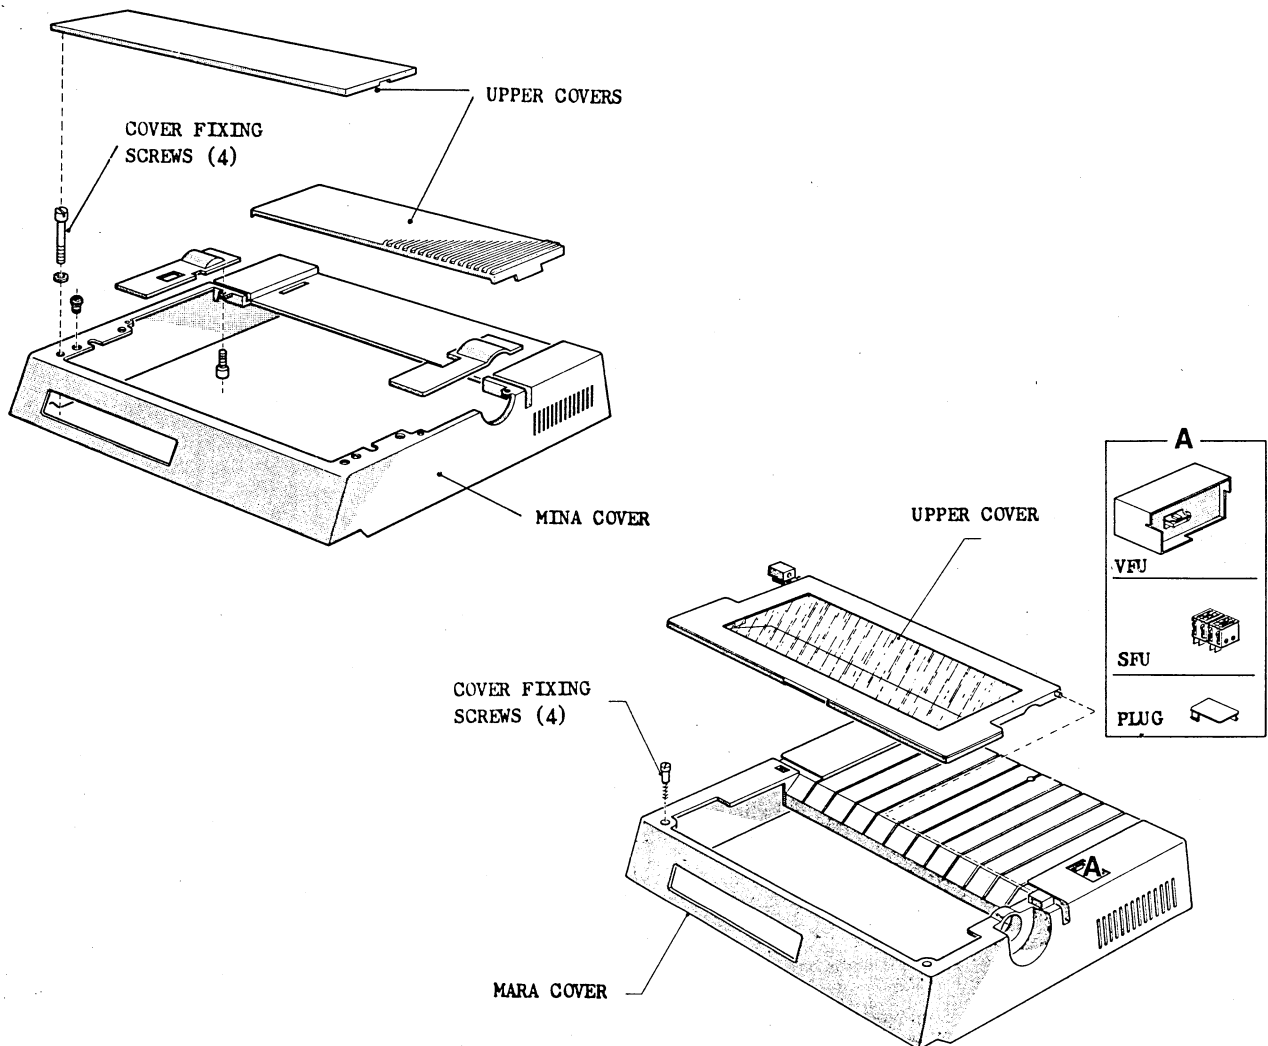

Fig. 6-2
- 1 - Remove the upper covers (fig. 6.2)
- 3 - Remove the upper cover screws (4) (fig. 6.2)
- Remove all covers (fig. 6.2)